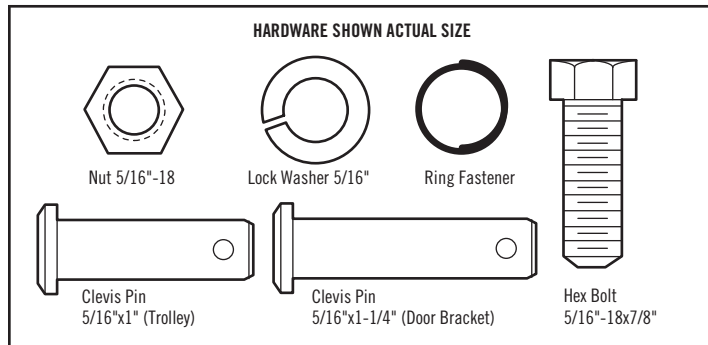

Figure 1
2. Fasten straight door arm section to outer trolley with the 5/16"x1" clevis pin. Secure the connection with a ring fastener (Figure 1).